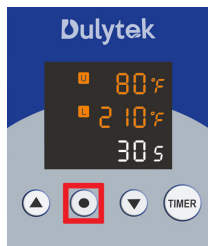

Fig. 5
5. Press Set **⊙** button again (Fig. 5) to go to the timer setting mode.